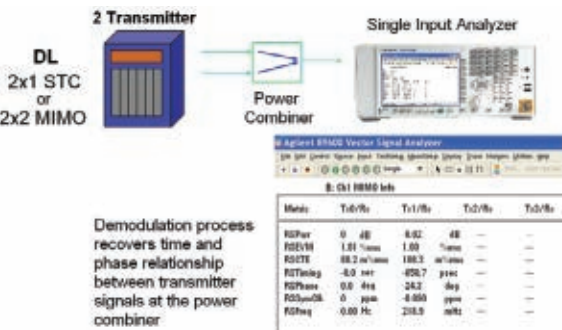

Figure 4 Cross-channel measurements using a single-input MXA spectrum analyzer and power combiner include RF frequency and phase
The most precise RF phase and timing measurements can be made with a single input analyzer. If a power combiner is used to feed multiple inputs into the single input analyzer, as shown in figure 4, relative timing and RF phase measurements may be made by demodulating the signals and comparing the symbol alignment. This method entirely removes any effect of additional equipment, and can offer sub-nanosecond and degree-measurement resolution.
- Noise figure 4 dB typical